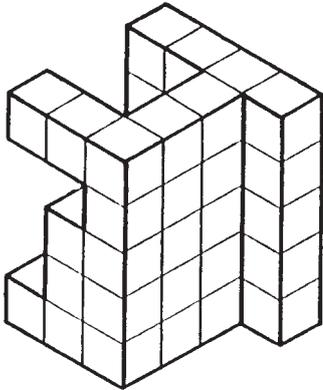
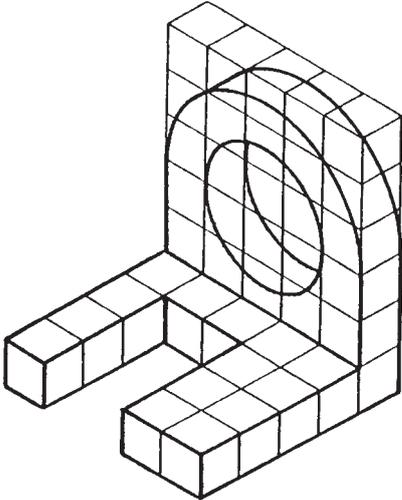
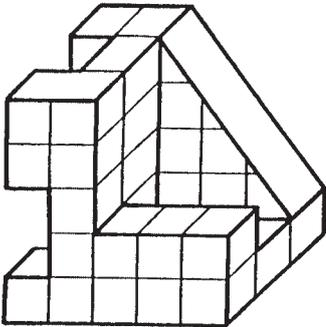

Figure 1a
Figure 1b
Figure 1c
- 3.1 In Section 6, figure 1 shows four simple engineering components. Figure 1a and figure 1b are drawn in isometric projection and figure 1c and figure 1d are drawn in oblique projection. You must redraw the isometric components in oblique projection and the oblique components must be redrawn in isometric projection.
- 3.3 Draw full size the two isometric projections figures 1a and 1b in oblique projection:
- 3.3.1 Figure 1a in oblique projection.
- 3.3.2 Figure 1b in oblique projection.
- 3.4 Draw full size the two oblique projections figures 1c and 1d in isometric projection:
- 3.4.1 Figure 1c in isometric projection.
- 4.3 The two isometric projections figures 1a and 1b in oblique projection drawn full size:
- 4.3.1 Figure 1a in oblique projection. ()
- 4.3.2 Figure 1b in oblique projection. []
- 4.4 The two oblique projections figures 1c and 1d in isometric projection drawn full size:
- 4.4.1 Figure 1c in isometric projection. ()